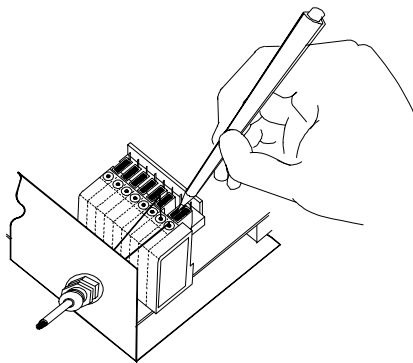

Figure 9 - System cable connections to the junction box
- Using a device such as a screwdriver, push down on the orange lever directly above the clamp (see Figure 9).